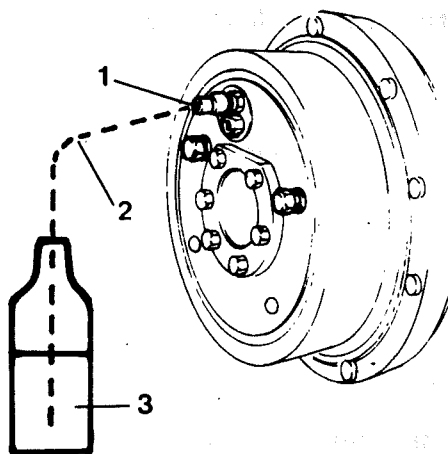

Fig 29 Wheel brake
1 Clean the area round the bleed nipple (1) and loosen it about 1 turn. Connect a plastic hose as shown in Fig 29.